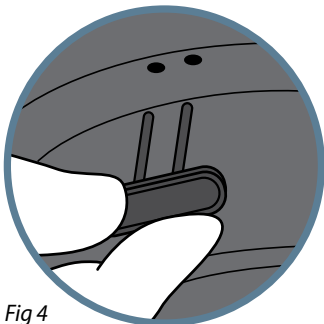

Fig 4
4. Remove cup holders, if applicable. Open the dispenser lid using the key provided in the replacement kit (Fig 4).